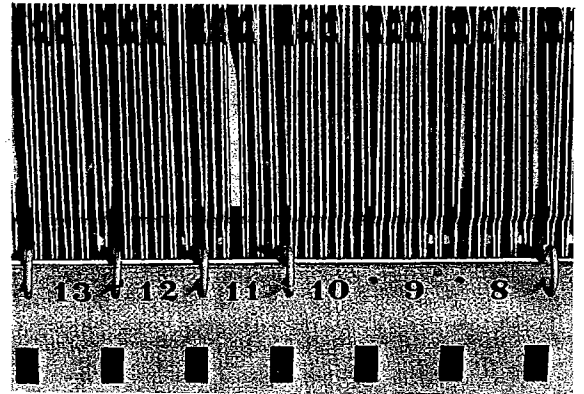

Figure 1. A group of Three between Columns 8 and 10.
The Interlocking Channel, found in the Custodian's Compartment, is the long numbered bar extending almost the full length of the compartment (Figure 1). This channel must be arranged so that the voter may vote for any candidate, or candidates, equal to but not more than the number to be elected in any given office. The channel is arranged as follows:
2. Using an "Office Title" Ballot Label for reference, note which offices occupy more than one column. Grouping Pins should be removed between the columns in any such office. (Grouping Pins are the removable pins shown in Figure 1 which may be inserted as required in the holes in the Channel). When inserting Grouping Pins be sure that the pin goes through the brass roller, not beside it. Note that the number of Grouping Pins removed is always one less than the number of columns in the 'grouped' office on all single write-in machines.